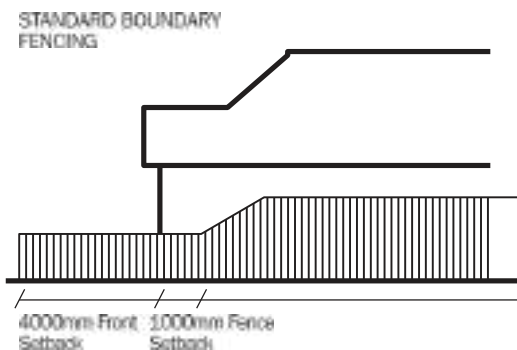

FIGURE 1
- 10.3 Side boundary fencing must be setback a minimum of 1 metre behind the front facade of the dwelling and tapered to meet the front fencing height which must finish behind the building line (Refer Figure 1).